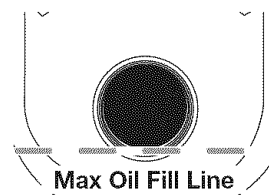

Fig. 20
6. If the oil level is not touching the inner most thread on the oil fill hole, add a small amount of oil to the oil fill hole and recheck (Fig. 20). Repeat this procedure until the oil level reaches the inner most thread on the oil fill hole.